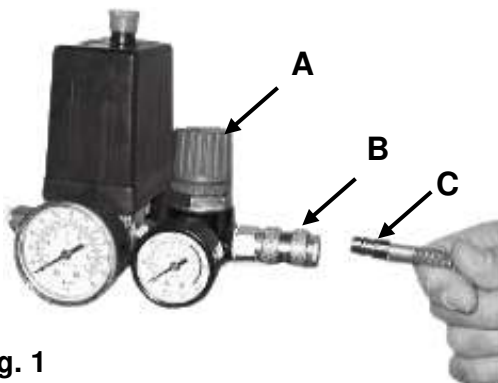

Fig. 1
2. Connect the nipple **C** of air hose to compressed air outlet coupling **B** (fig.1). Push nipple **B** firmly inside the outlet coupling **B**.